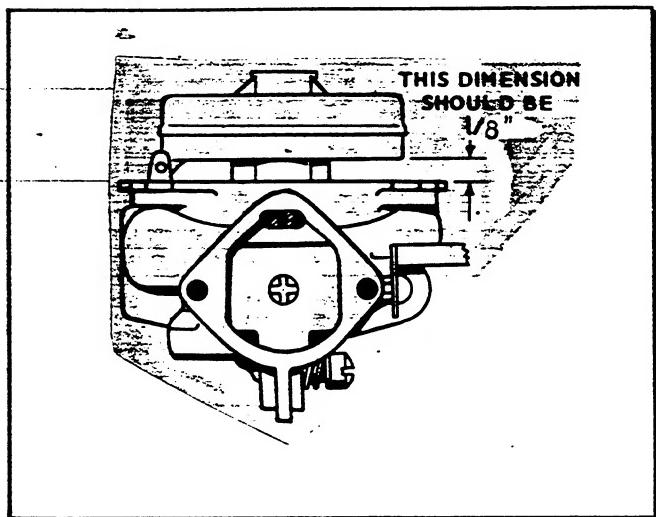

FIG.4 - CARBURETOR FLOAT ADJUSTMENT
2. Set float level. With carburetor casting inverted and float resting lightly against needle in its seat, there should be $1/8''$, plus or minus $1/32$ of an inch clearance between machined surface of casting and free end of float (side opposite needle seat). See Fig. 4.